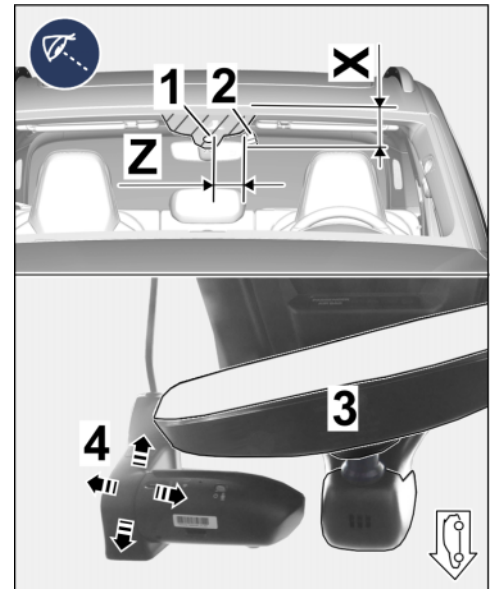

Figure 8
2.1.3 Copy dimensions X and Z on the windscreen (⇒ *Figure 8-top-*).
2.1.4 Position front camera with retainer plate in the vehicle at the marking on the windscreen (⇒ *Figure 8 -Arrows-*).